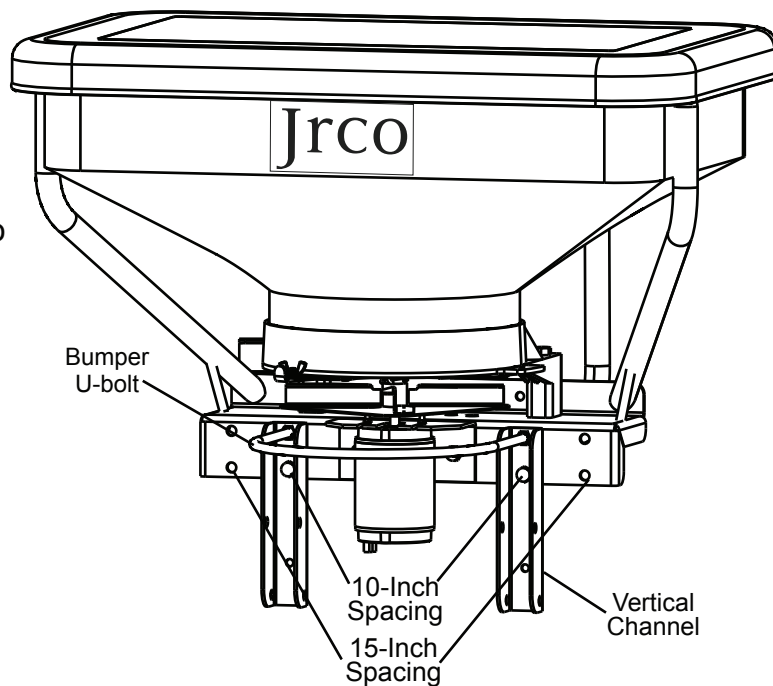

Figure 1
1. Use two or four 3/8 x 3/4 HH capscrews and nylon locknuts to install the two vertical channels to the hopper support. The legs of the vertical channels are facing out. See fig. 1. There are two sets of holes on the hopper support. The inner set of holes is used for mount bars with 10-inch vertical channel spacing (all current mount bars) and the outer set of holes is used for bars with 15-inch vertical channel spacing (some older mount bars). When using the 10 inch spacing, the bumper u-bolt will have to be temporarily removed and reinstalled through the upper hole of the vertical channels.